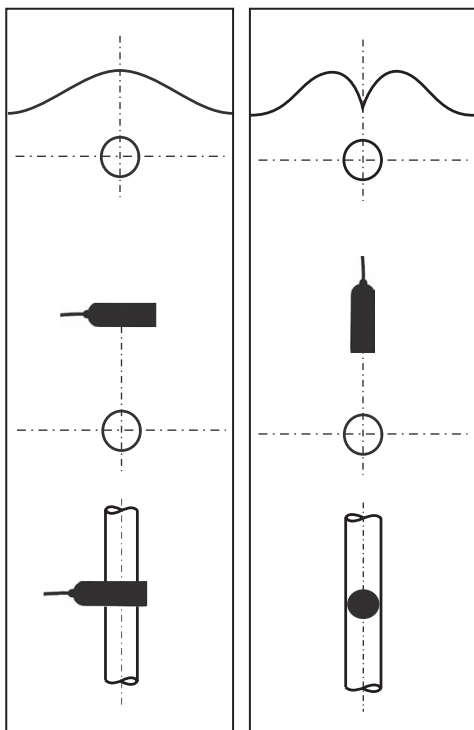

Fig. 13: Signal curve (above) and orientation of the **SK 3** search coil over a line
- Hold the **SK 3** search coil as fig. 13 shown in the left-hand figure.
- Hold the **SK 3** search coil as fig. 13 shown in the right-hand figure.